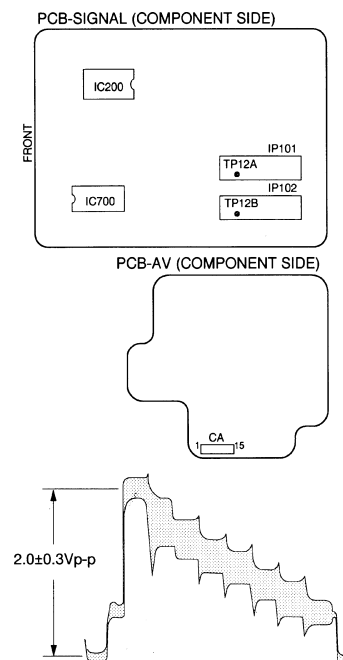

Fig 10
- 2: Connect the oscilloscope to TP12A (pin (13) of connector CA) and TP12B (pin (15) of connector CA).
- 9: Terminate the service adjustment mode, ("1" button). See Fig 10.